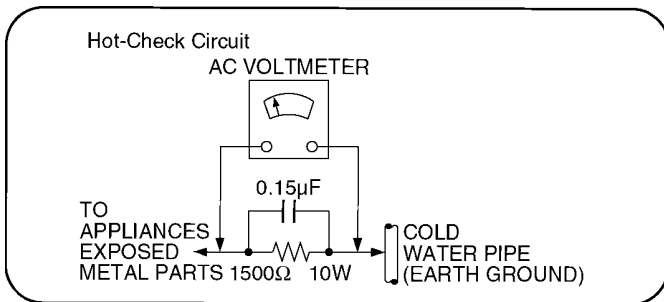

Figure 1
1.1.2. LEAKAGE CURRENT HOT CHECK (See Figure 1 .)
2. Connect a $1.5k\Omega$, 10 watts resistor, in parallel with a $0.15\mu F$ capacitors, between each exposed metallic part on the set and a good earth ground such as a water pipe, as shown in Figure 1.